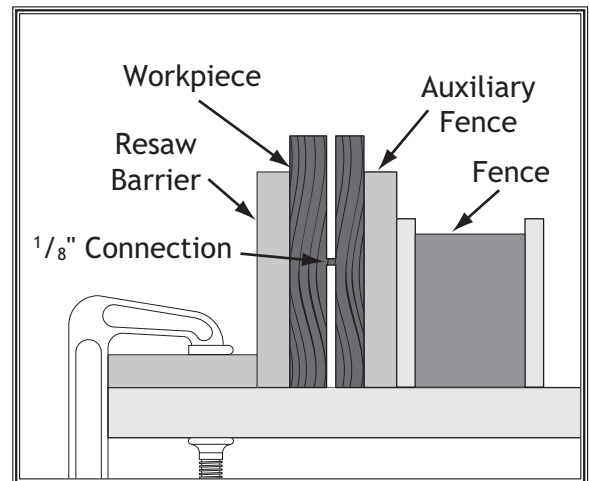

Figure 62. Completed resaw operation.
10. If necessary to complete the operation, repeat **Steps 7-9** until the blade is close to half of the height of the board to be resawn. The ideal completed resaw cut will leave an $\frac{1}{8}$ " connection when the resawing is complete, as shown in **Figure 62**. Leaving an $\frac{1}{8}$ " connection will reduce the risk of kickback.